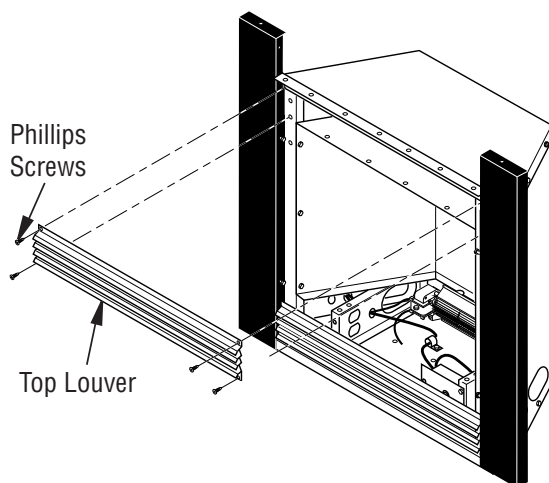

Figure 7 - Removing Louver
4. Using Phillips screwdriver, remove 4 screws attaching top louver (*see Figure 7, Page 9*).